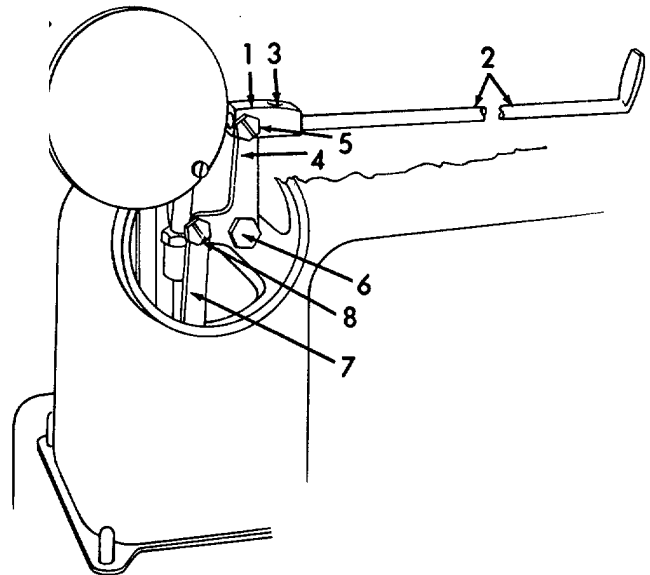

Figure 6-145. Push Rod and Pivot Lever, Installation .
e. *Installation (Refer to Figures 6-145 and 6-146).*
- (1) Refer to Figure 6-145. Install push rod (2) through front of arm.
- (2) Install connector block (1) to push rod (2).
- (3) Tighten two setscrews (3).
- (4) Connect push rod (2) to pivot lever (4) and install stud (5).
- (5) Install screw (6).
- (6) Install connecting strap (7).
- (7) Install screw (8).